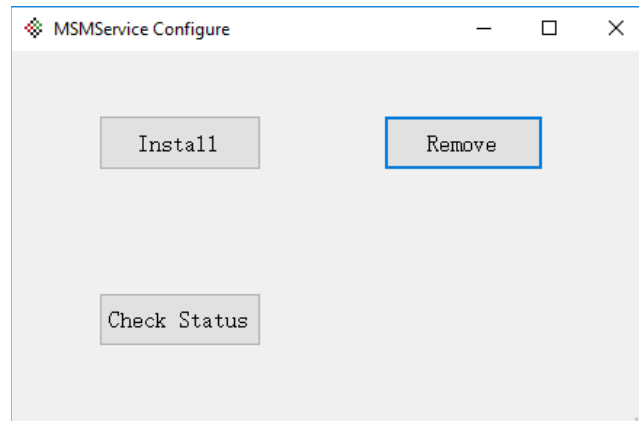

Figure 18
1. Go to Tools > MSMService Configure to open the MSM Service Configure window. (Figure 18)